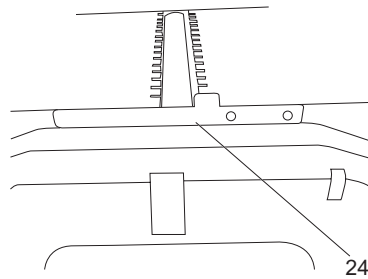

Fig. 4
- > Then place the safety guard plate (24). (Fig. 4)